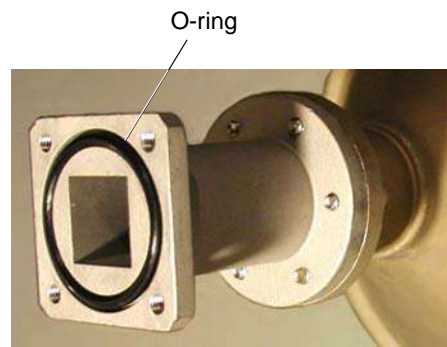

Figure 29: O-ring in groove in waveguide transition
1. Apply silicone grease to the O-ring groove in the waveguide transition. See Figure 29.